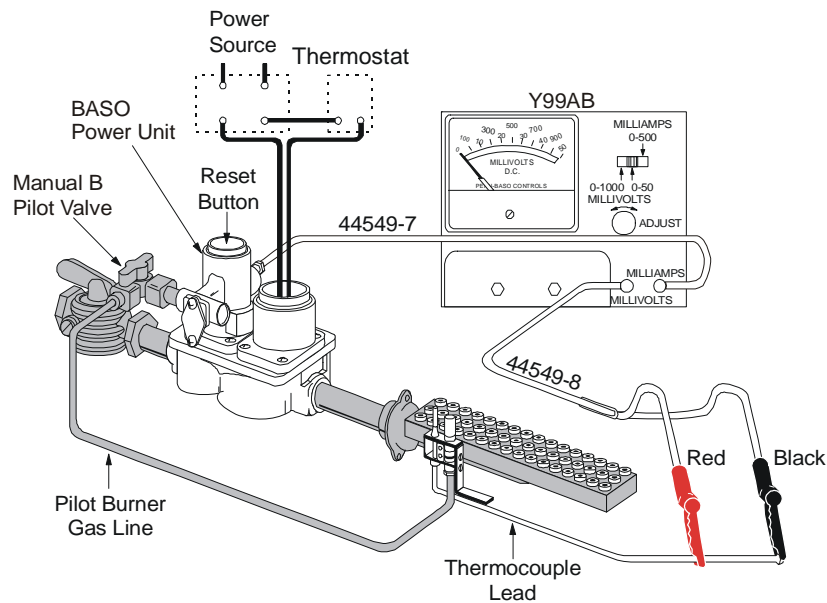

Figure 2: Turn Down Test Using Y99AB Test Kit
3. Connect the Y99AB test kit leads as shown in Figure 2. Connect lead 44549-8 to the thermocouple lead, and connect lead 44549-7 to the thermocouple connection of the BASO power unit (see Figure 2).